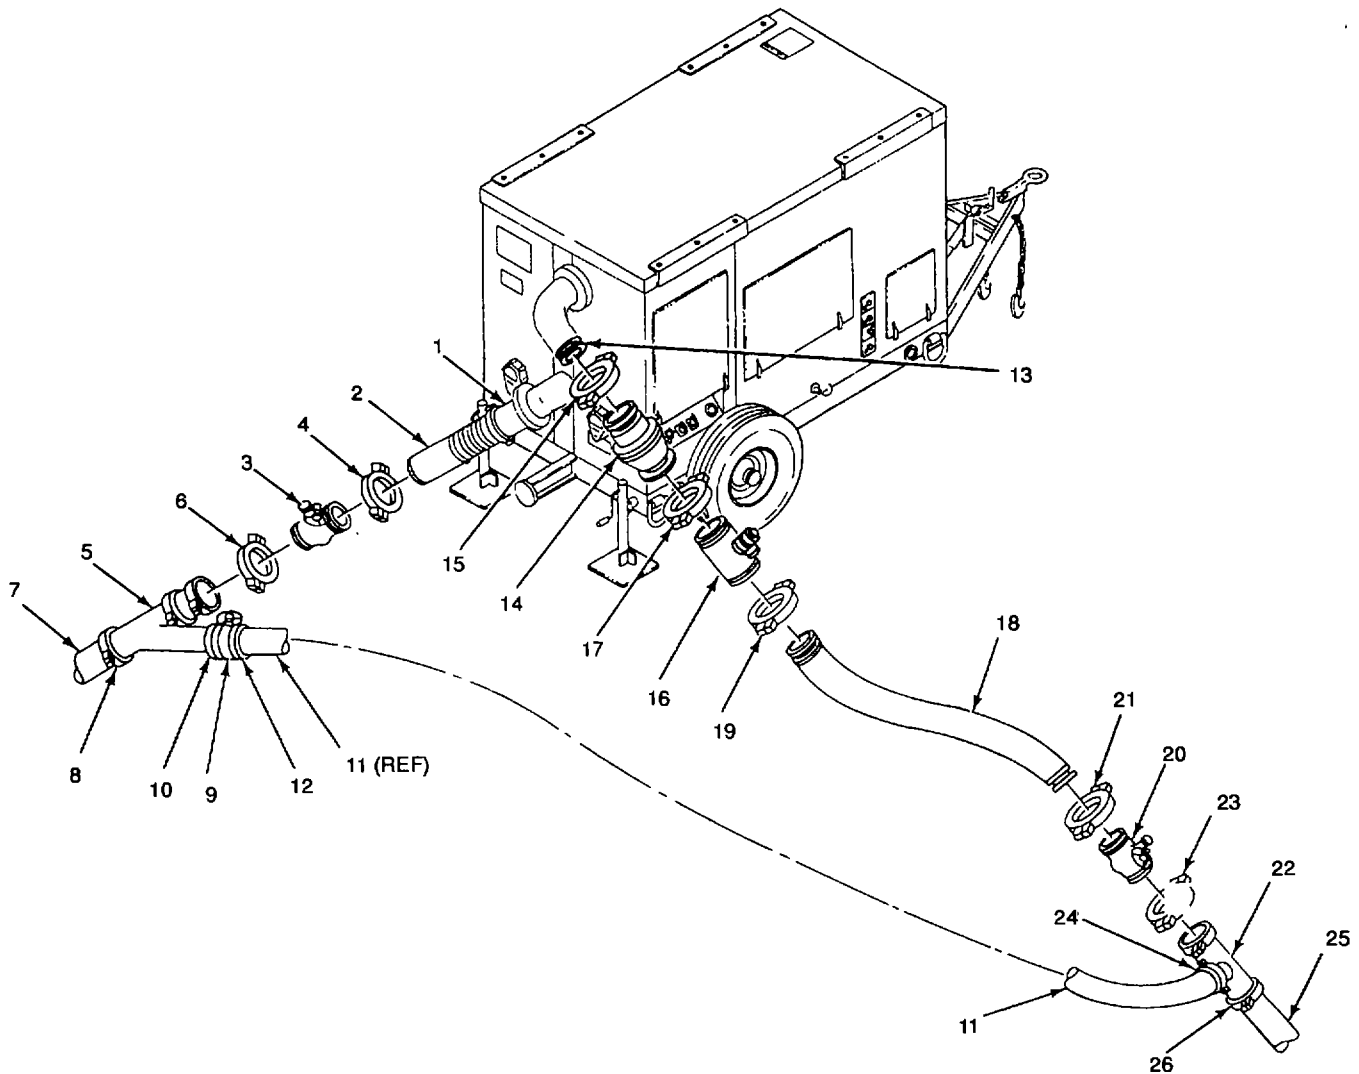

Figure 2-17. Boost Pumping Assembly
- (9) Install pressure-relief valve assembly (9) to 6-inch check valve (6) with 6-inch boltless coupling (10).
- (10) Connect end of 10-mile segment collapsible hose (11) to pressure-relief valve assembly (9) with 6-inch boltless coupling (12).
- (11) Restrain hose manually until first 50 ft (15 m) of hose is in position. After 50 ft (15 m) of hose is in position, the weight of the hose will hold line in place.
- i. Assemble Boost Pumping Stations. Perform the following (Figure 2-17):
- (1) Disconnect pumping assembly from tow vehicle. Refer to applicable pumping assembly technical manual.
- (2) Remove plastic cap from suction port (1) on pump. Retain cap for movement or storage.
- (3) Locate 6 in. X 10 ft lengths of rigid-walled, wire reinforced suction hose (2) with quick-disconnect fittings.
Ensure pressure-relief valve is installed as shown in Figure 2-17 to avoid personal injury.**